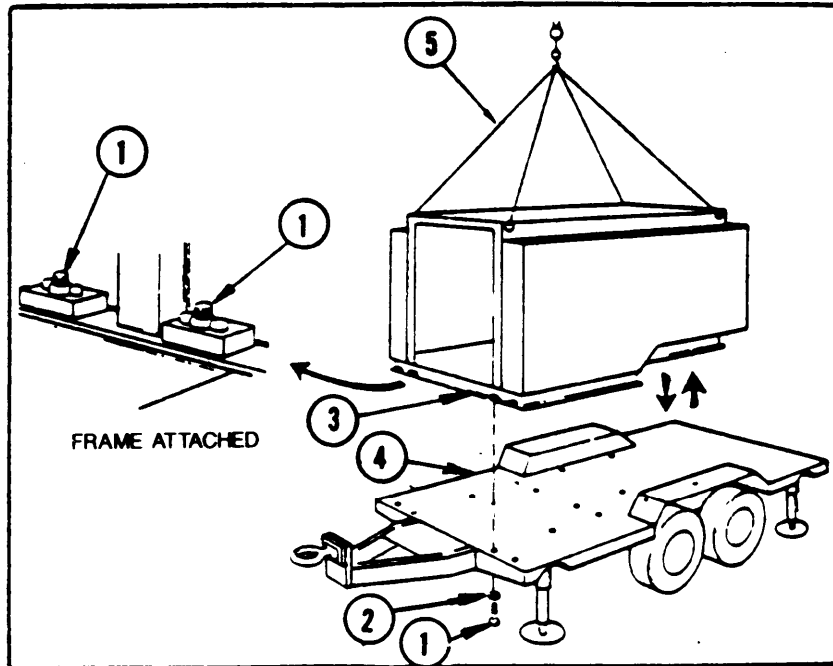

Figure 3-61. ROWPU Frame (ARMY)
(5) Install new inserts (1) through (9) and nuts (10) through (12).
c. Removal. (Figure 3-61)
(1) Drain all filter tanks and pressure vessels.
(2) Remove all portable items from frame.
(3) Remove all installed items on frame.
(4) Remove sixteen bolts (1) (figure 3-61) and washers (2) securing frame (3) to bed of trailer (4). (ARMY)
(5) Attach sling to frame lifting rings. Using crane, lift frame (3) from trailer (4).
(1) Attach sling to frame lifting rings as shown in (figure 3-61). Using crane, lift frame (3) and install on trailer (4). (ARMY)
(2) Secure frame to trailer with sixteen bolts (1) and sixteen washers (2).
(3) Install all removed items.